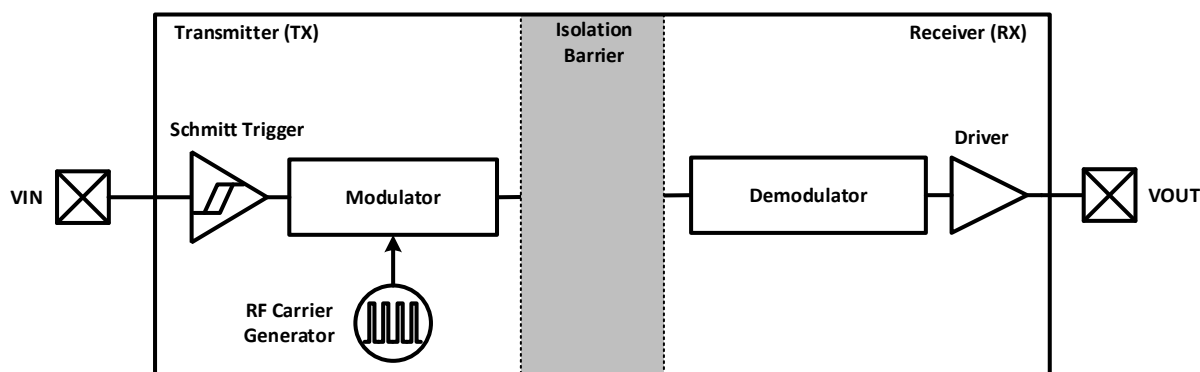
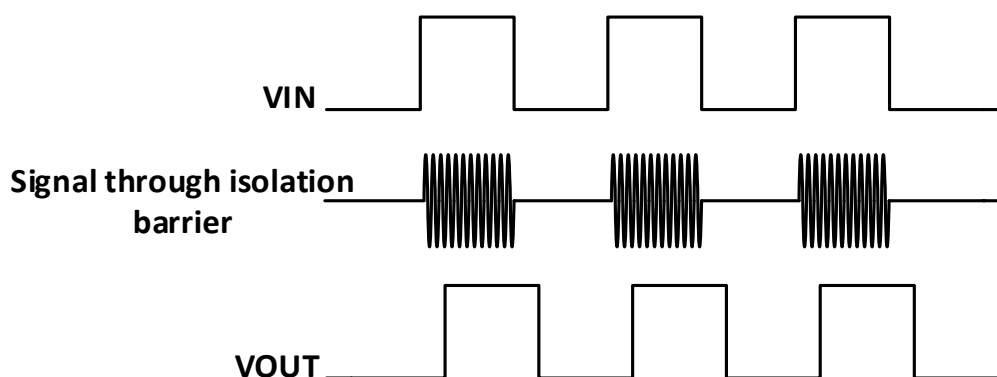

Figure 9-1 Functional Block Diagram of a Single Channel
Figure 9-2 Conceptual Operation Waveforms of a Single Channel
The CA-IS38xx family of devices use a simple ON-OFF keying (OOK) modulation scheme to transmit signal across the SiO2 isolation capacitors that provide a robust insulation between two different voltage domain and act as a high frequency signal path between the input and the output. The transmitter (TX) modulates the input signal onto the carrier frequency, that is, TX delivers high frequency signal across the isolation barrier in one input state and delivers no signal across the barrier in the other input state. Then the receiver rebuilds the input signal according to the detected in-band energy. This simple architecture offers a robust isolated data path and requires no special considerations or initialization at start-up. The capacitor-based signal path is fully differential to maximize noise immunity, which is also known as common-mode transient immunity. Advanced circuitry techniques are applied for better EMI introduced by the carrier signal and IO switching. The capacitively-coupled architecture provides much higher electromagnetic immunity compared to the inductively-coupled one. And OOK modulation scheme eliminates the missing-pulse error that occurs in the pulse modulation method. A simplified functional block diagram and conceptual operation waveforms of a single channel is shown in Figure 9-1 and Figure 9-2.